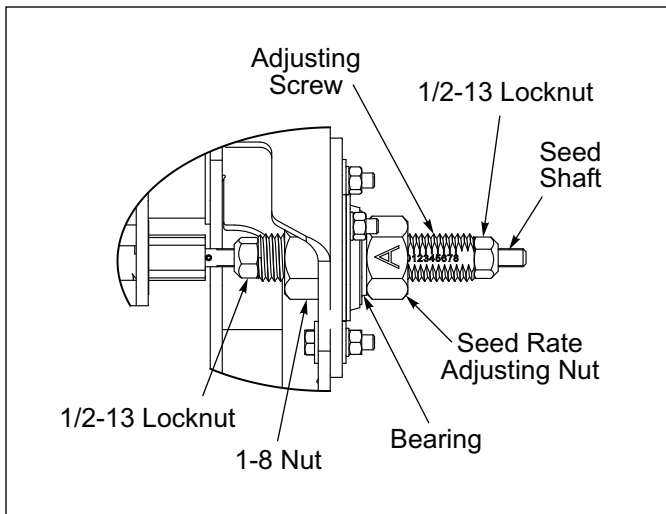

Figure 2-34: Rear Box Seed Rate Adjuster
25. Assemble onto the Rear Seed Box Seed Shaft the Seed Rate Adjusting Screw, 1-8 Nut, Bearing, Seed Rate Adjusting Nut and 1/2-13 Locknut. Place Bearing between Flangettes and attach to Bearing Carrier with 5/16-18 x 1 Bolts, Lock Washers and Nuts. **See Figures 2-34 and 2-35.**